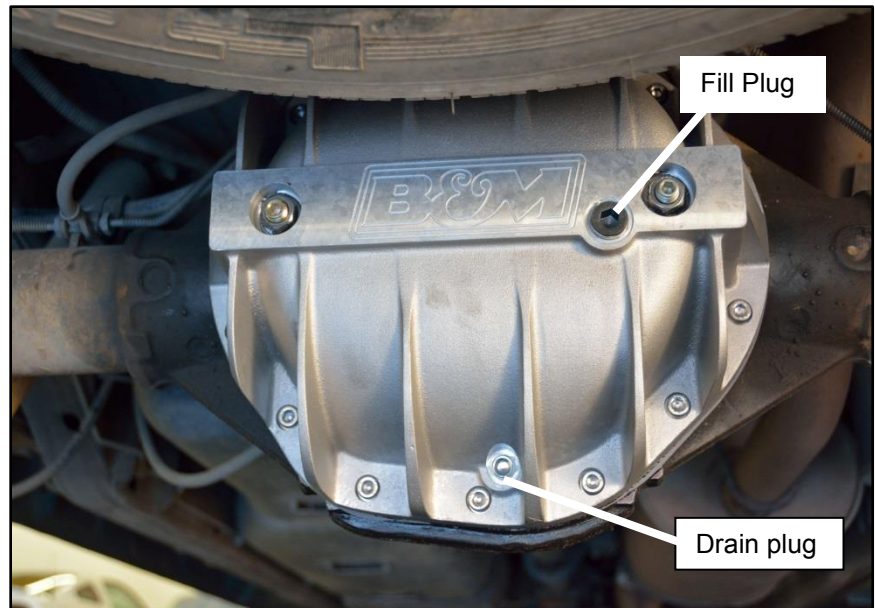

Figure 5
Cover and tighten (See Figure 5).
STEP 17. Fill with factory recommended gear oil using the **B&M Cast Aluminum Rear End Cover** fill plug hole (See Figure 5). Add gear oil until oil runs out of the axle housing fill hole.